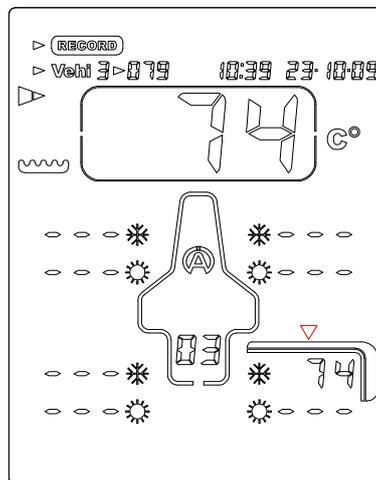

Figure 5
- 6) Press the central button  to record the measured pressure as well as the hour and the date of the moment, then, the point of capture displayed to the screen moves automatically following the sequence programmed in the menu SETUP. In the example (*figure 5*), the device positions itself on the measure of the temperature in the center of the left rear tyre.
- 7) Apply the sensor of temperature on the tyre as indicated on the screen by the arrow (*figure 5*).